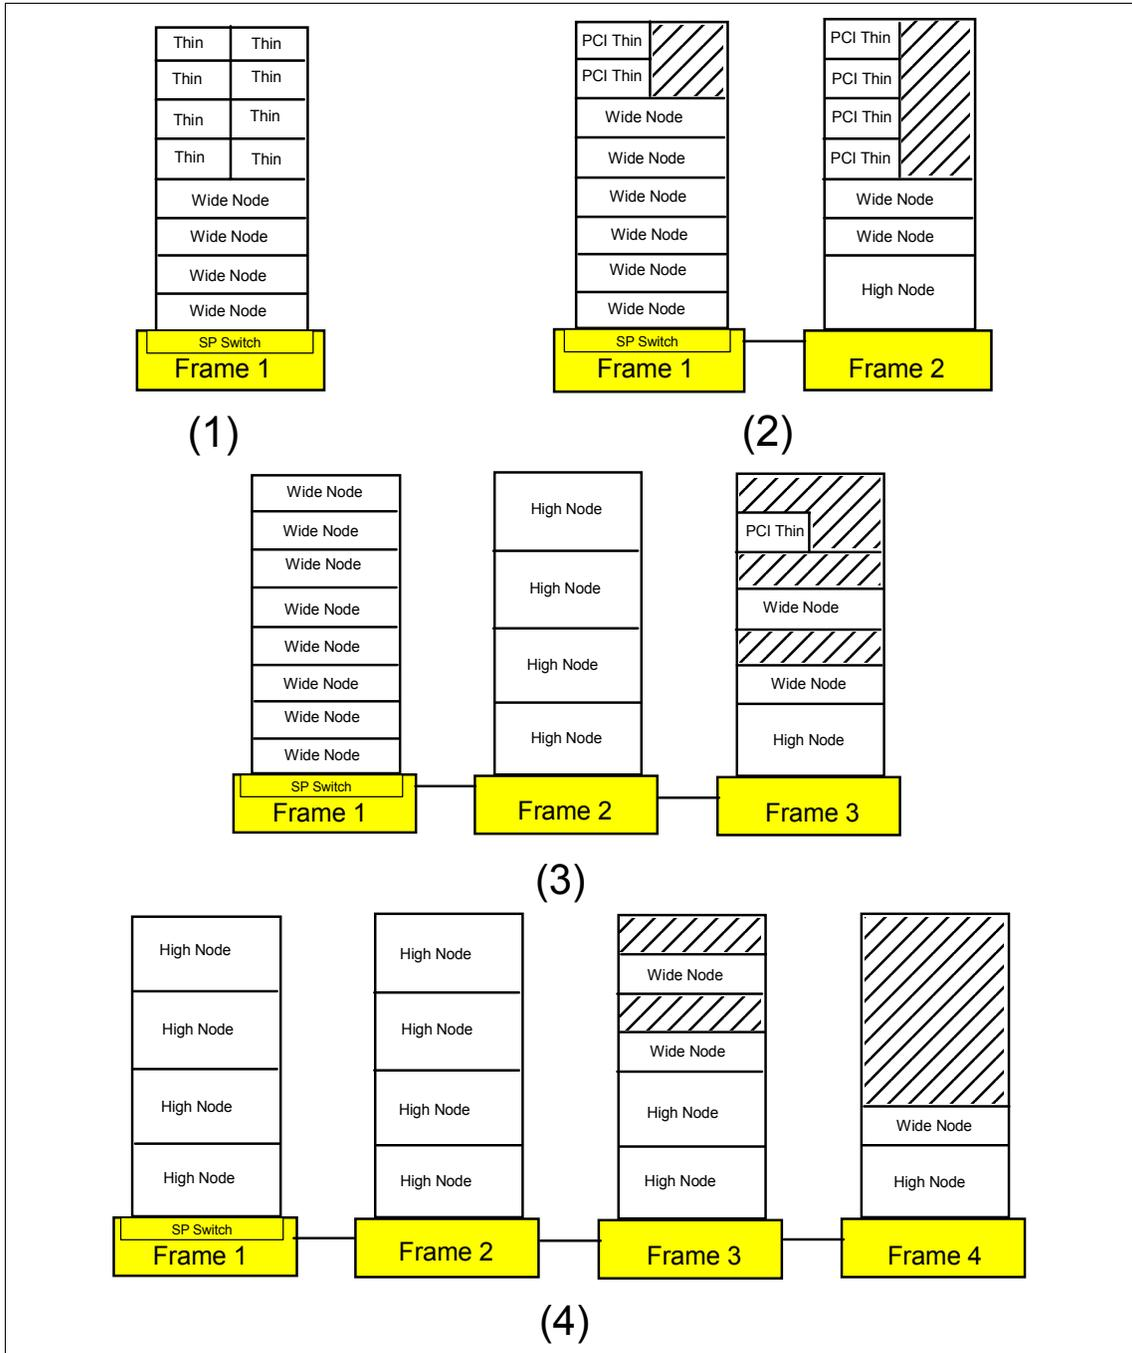

Figure 2-36 Example of single SP Switch configurations
Figure 2-36 on page 82 shows an example of a single-stage SP Switch configuration with no more than 16 nodes. In configuration (1), four wide nodes and eight thin nodes are mounted in a tall model frame equipped with an SP Switch. There are four available switch ports that you can use to attach SP-Attached servers or SP Switch routers. Expansion frames are not supported in this configuration because there are thin nodes on the right side of the model frame.